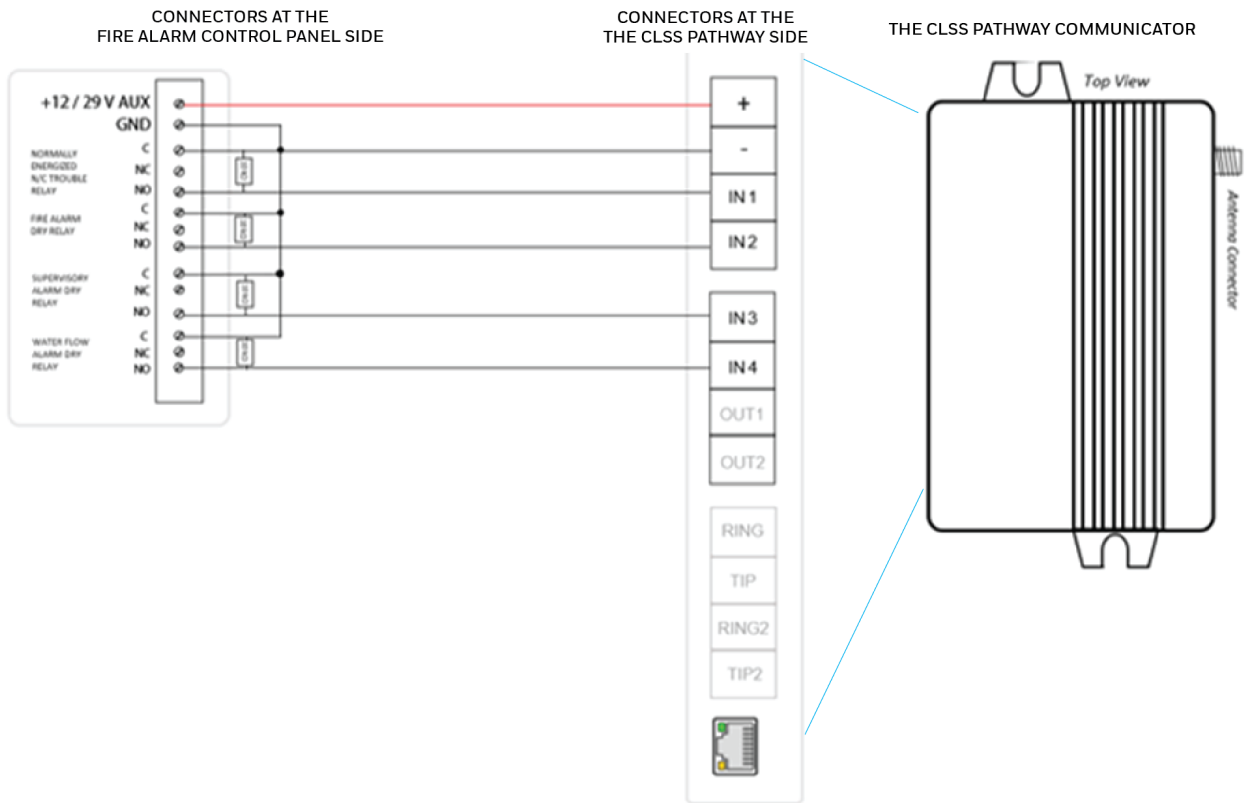

Figure 5.3: Wiring for Dry Contact Relay Monitoring
2. Connect the panel relay terminals and the communicator as in the Figure 5.3.